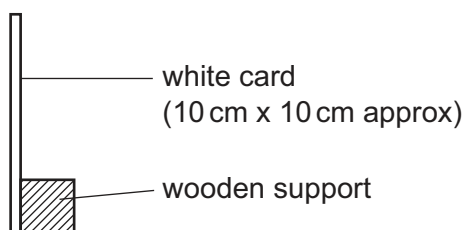

Fig. 3.1
- (iv) screen. The screen can be made from a sheet of white card (10 cm x 10 cm approx.). Some means of supporting the screen vertically must be supplied (e.g. by fixing the white card to a small block of wood). See Fig. 3.1.